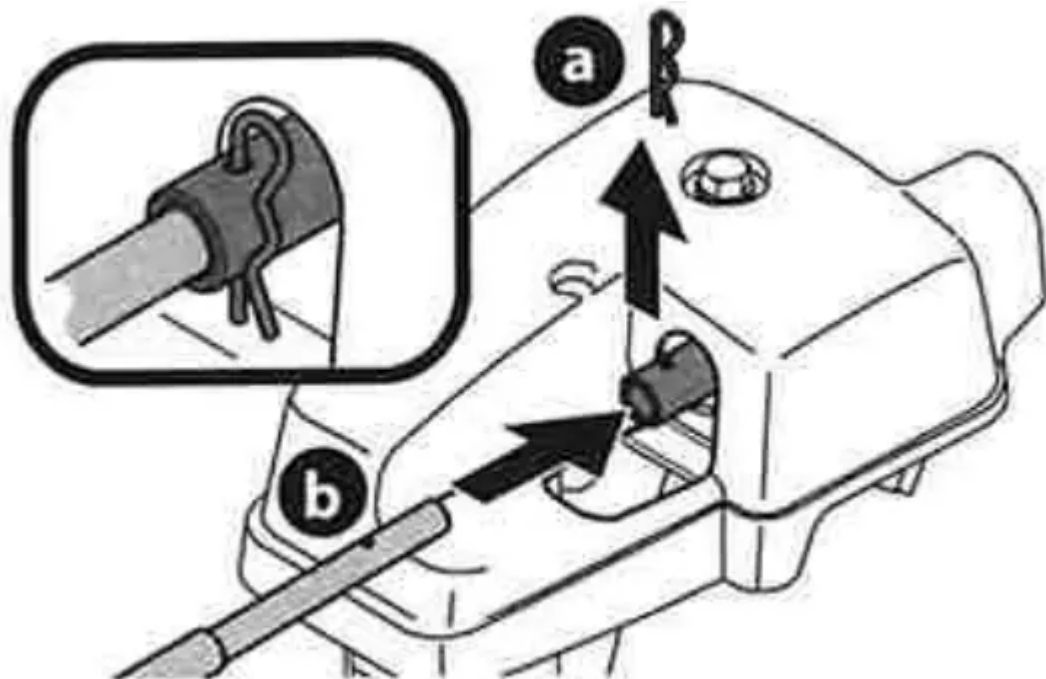

Figure 29
- Remove hairpin clip (a) from rear of chute control head (Figure 29).
5. Insert flex shaft (b) into rear of chute control head and secure with hairpin clip (a) removed in Step 4 (Figure 29).